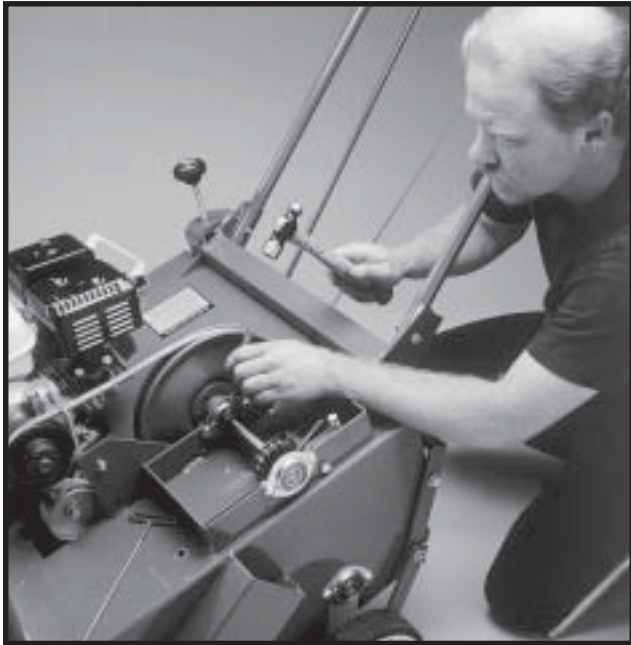

Figure 17
12. Unlock collar (best accomplished by using a hammer and pin punch). Insert pin punch into the hole next to the set screw and, using the hammer, with moderate striking, hit collar so that it rotates in the opposite direction the rotor would normally turn. (see Figure 17)